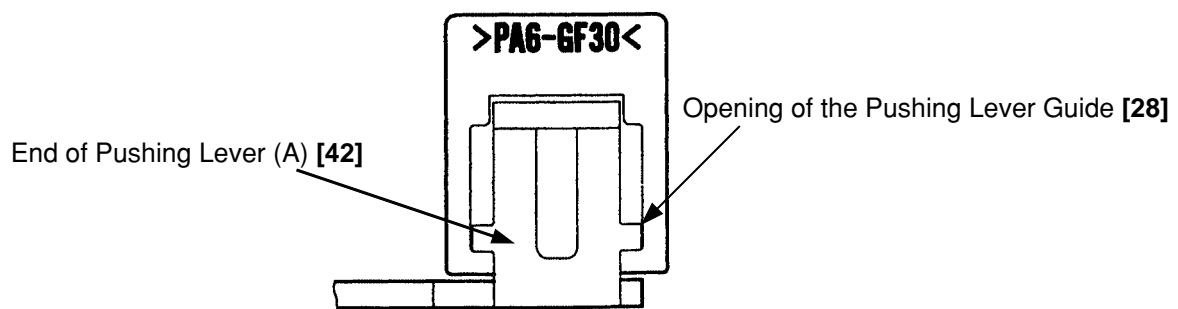

Fig. 18
- Before reassembly, check that the end of Pushing Lever (A) [42] is inserted in the opening of the Pushing Lever Guide [28] securely as shown in Fig. 18.
- After reassembly, check that Pushing Lever (A) [42] operates smoothly.